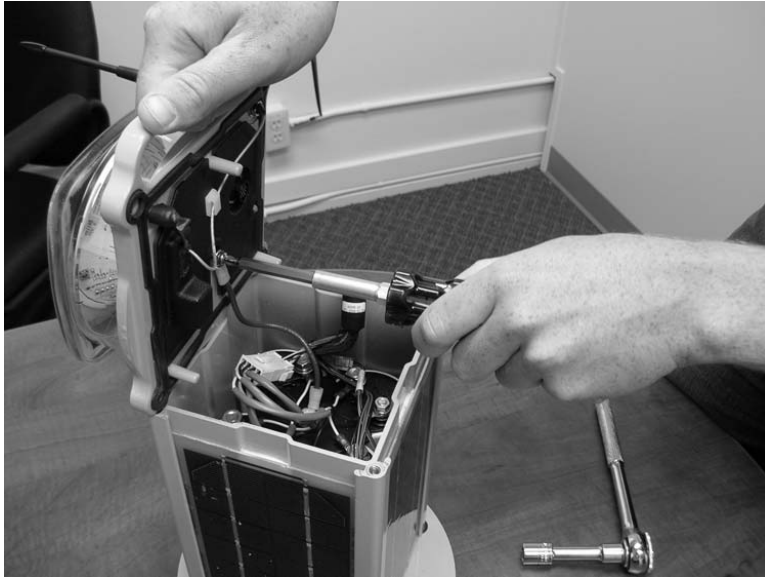

Figure 11-4: Removing the Ground Strap
6. Remove the ground strap from the head using the Phillips screwdriver; see Figure 11-4.